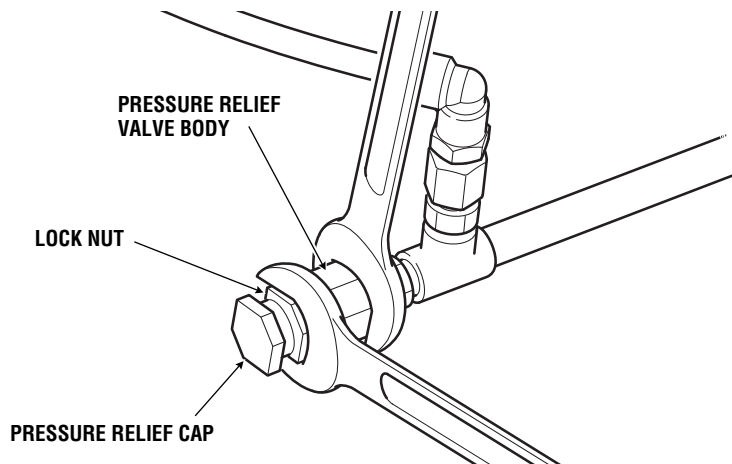

Figure 4-11: Pressure Relief Valve adjustment.
- m) Adjust the air pressure if necessary by releasing the lock nut and turning the pressure relief cap as shown in Figure 4-11.